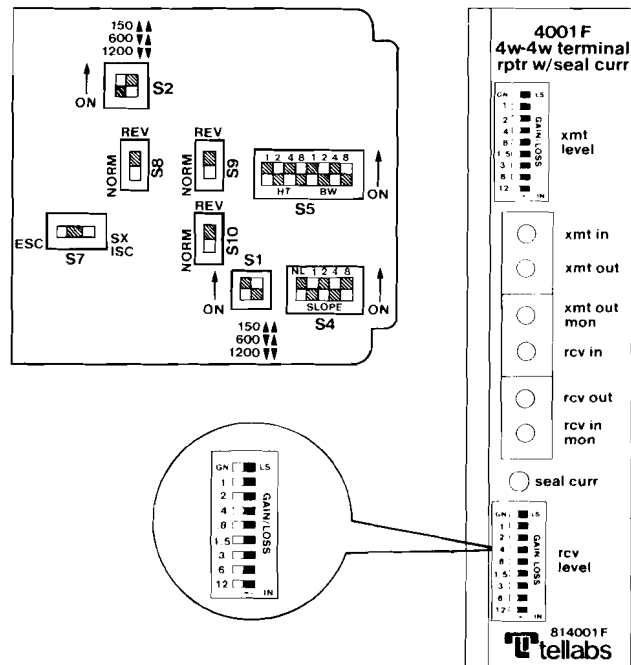

figure 9. Option and alignment switch locations
3.05 Six option switches must be set before the 4001F/02F can be placed into service. These switches and their functions are described in paragraphs 3.06 through 3.08. Locations of these switches on the module's printed circuit board and front panel are shown in figure 9.